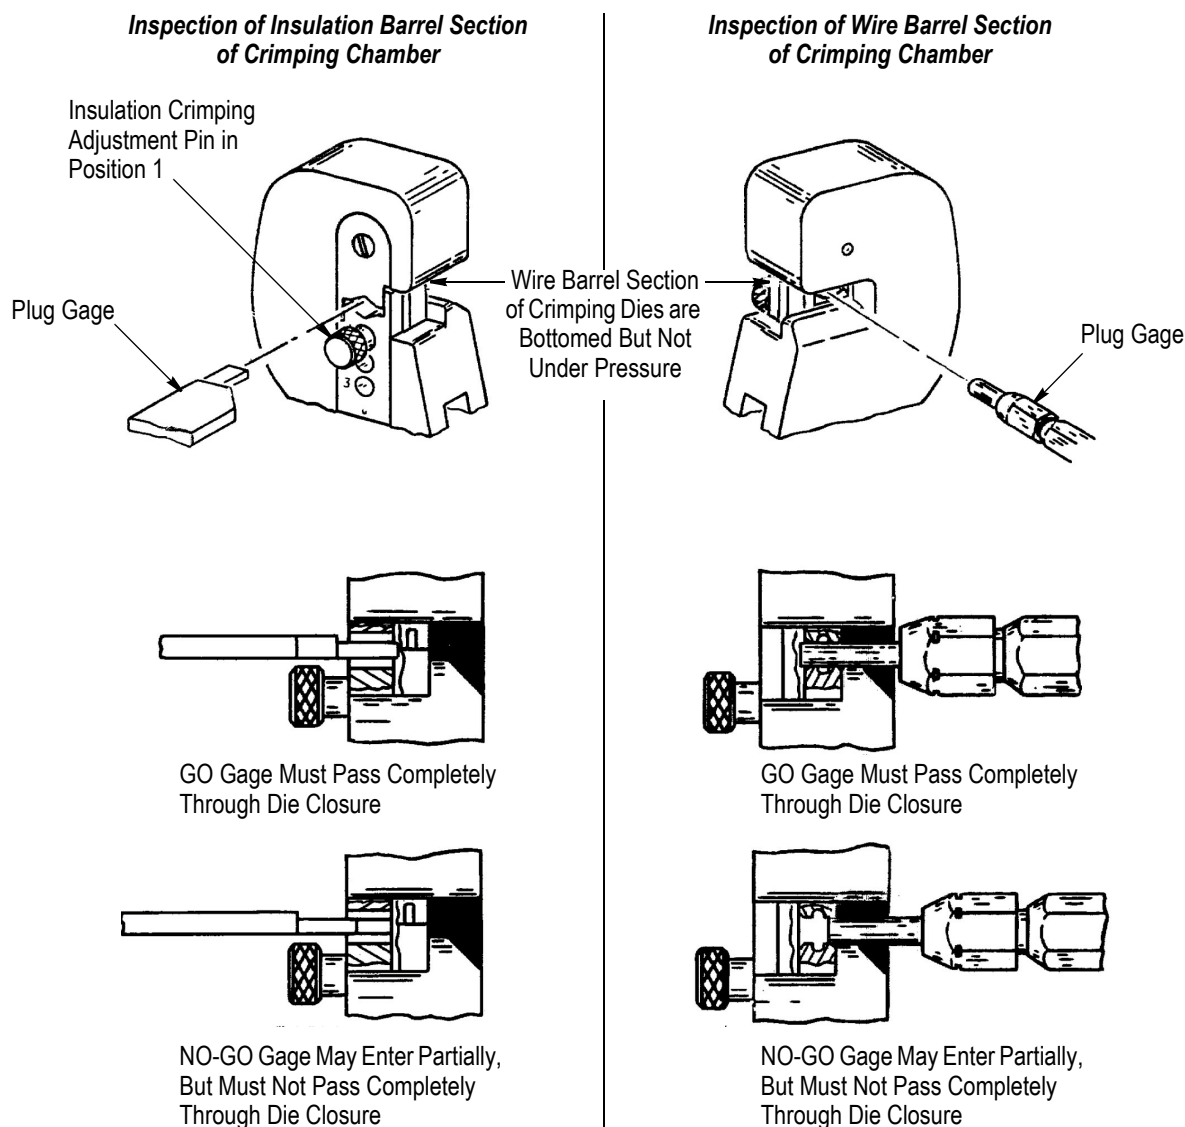

Figure 7
4. Align the GO element of the wire barrel plug gage with the wire barrel section of the crimping chamber. Push the element straight into the crimping chamber without using force. The GO element must pass completely through the crimping chamber, as shown in Figure 7.
5. Align the NO-GO element and try to insert it straight into the same section. The NO-GO element may start entry, but must not pass completely through the crimping chamber. See Figure 7.
6. Insert the insulation crimping adjustment pin into Position 1. Check the insulation barrel section of the crimping chamber using the insulation barrel plug gage in the same manner as in Steps 3 and 4. See Figure 7.